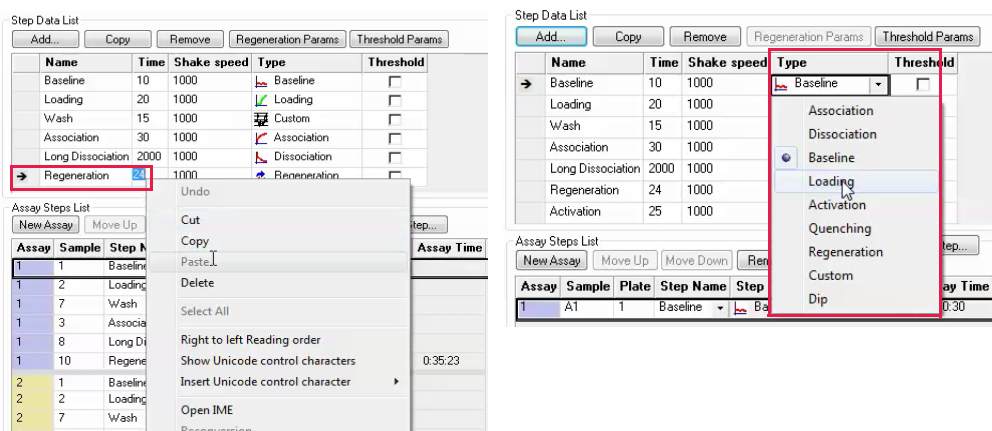

Figure 10-36: Editing a Step Value (left) or Step Type (right)
- Double-click the cell in the step's **Name**, **Time**, or **Shake speed** column and then enter a new value. Or, right-click the cell to display a shortcut menu of editing commands (see Figure 10-36, left).
- Click the cell in the step's **Type** column, then select another name from the drop-down list (see Figure 10-36, right).